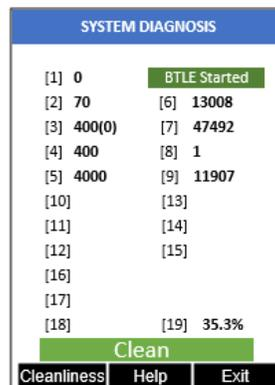
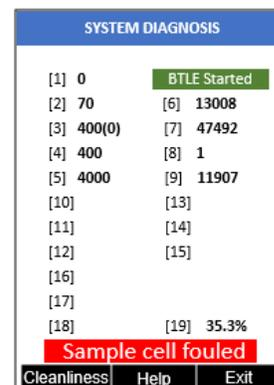

Figure 10.
Figure 11.
- Once the Cleanliness Check is completed a **Clean** message (Figure 10) or **Sample cell fouled** message (Figure 11) will appear towards the bottom of the display.